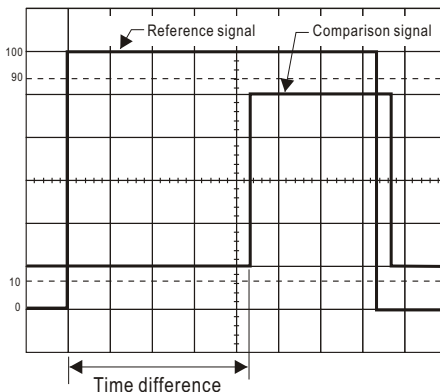

Fig. 14
(Refer to Fig. 14)
3. Use the Y POSITION controls to superimpose both waveforms to intersect the center horizontal graduation line as shown in Fig. 14.
For the example shown in Fig. 14, the horizontal distance measured is 4.4 divisions. If the sweep TIME/DIV is 0.2 ms and X10 magnification is not used, the time difference is calculated as follows: